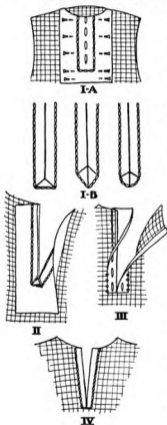

FIGURE 140
*Neck Binding* (Figure 140). — The neck opening may be finished by bands, bindings, or facings, depending upon the garment and collar. Binding is the most satisfactory finish used. After the neckline has been established, mark the opening the desired length by putting in a basting. Use a binding which is two inches wide and 1 inch longer than the length of the opening. Place the two wrong sides of the binding together and crease the center of the binding with a warm iron. Place the right side of the binding and the right side of the marked opening together, taking care that the binding is even with the neckline. Baste the center of the binding to the basted line of opening, taking care not to go beyond the basted line. Baste a